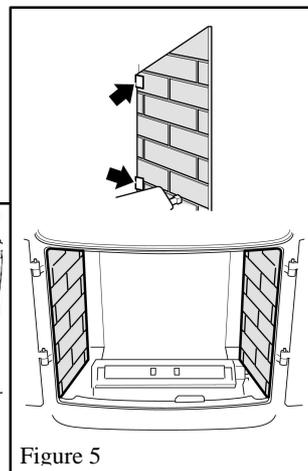

Figure 5
1. Place the ceramic walls against the firebox sides. Locate the back edges of the walls in the tabs at the back corners of the firebox. See figure 5.